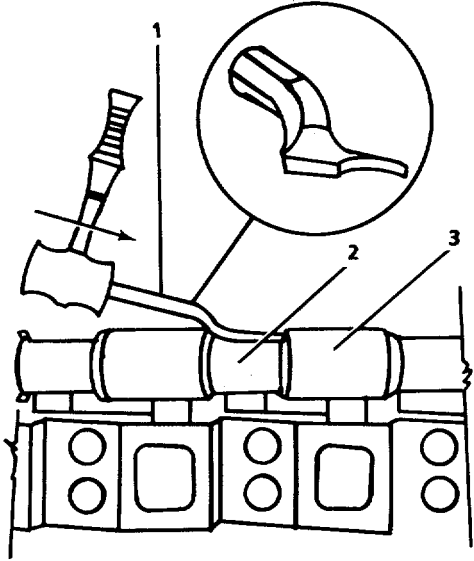

FIGURE 2-30. Water Transfer Tube Positioning for Removal.
- (2) Use a water tube driver (1, FIG. 2-30) and a hammer to push the tubes (2) until the tubes clear the housing (3) tube on the left bank toward the rear of the engine.
(5) Use a water tube driver (1, FIG. 2-30) and a hammer to push the water tube into the adjacent housing until the groove is visible.